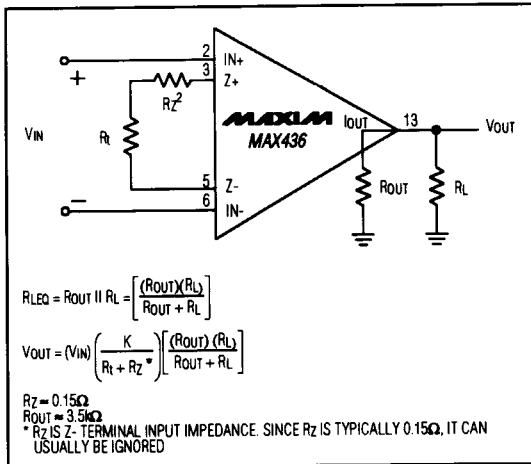

Figure 2. Finite Output-Impedance of WTA
As shown in Figure 2, the WTA output impedance (ROUT) is paralleled with the circuit load impedance (RL), reducing the equivalent load impedance. After accounting for the finite WTA output impedance (ROUT), the actual circuit gain is calculated with the following formula: